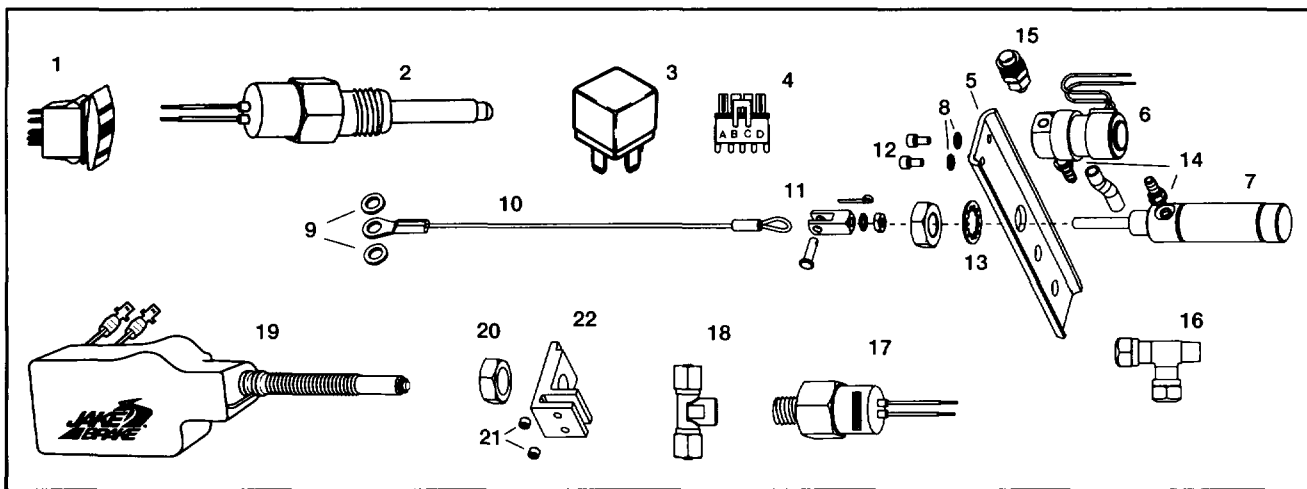

Figure 1
- a. Insert the Air Throttle Kick-up Cylinder (P/N 022633) through the hole near the center of the Throttle Kick-up Bracket (P/N 022627), positioning it as illustrated in Figure 1 on page 2. Use the 7/16" Lock Washer (P/N 022647) and the nut included with the cylinder. Do not tighten at this time.